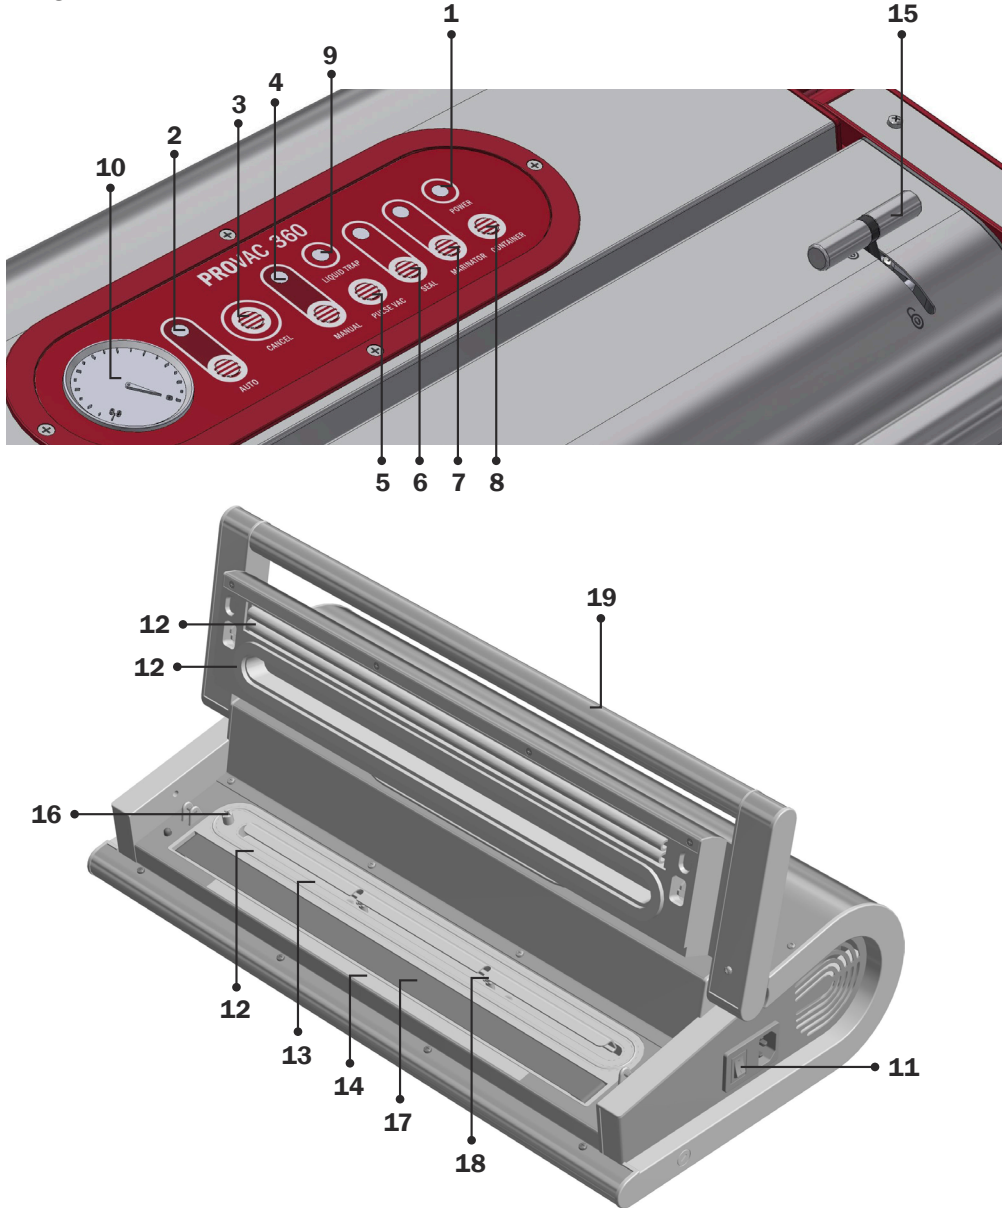

Figure 1: STATUS PROVAC 360 – components are marked with numbers.
- d.) Never touch the Sealing Strip when using the machine (Item 17 in Figure 1) – it may be hot.
Figure 1 below shows components of the vacuum packing machine. Numbers in explanations of machine operation are used in the same manner as in the Figure throughout the user manual.
- a.) Clean the surface of the area where the Status Stiki tape will be attached with alcohol or acetone. See Item 14 in Figure 1.
Turn the machine on by pressing the button on the right side of the machine (Item 11 in Figure 1). Make sure that the control light marked Power is on (Item 1 in Figure 1).
- Press the Seal button (Item 6 in Figure 1). During the sealing process the Seal button blinks and remains lit towards the end of the process.
- Press the Auto button (Item 2 in Figure 1) to run the full cycle and achieve maximum negative pressure. Make sure the cover of the machine is lifted.
If you notice that the machine is drawing liquid IMMEDIATELY stop the vacuum packing process by pressing the Cancel button (Item 3 in Figure 1). If the vacuum packing process is not stopped in time and the liquid enters the vacuum channel, the machine will automatically stop the vacuum packing process. The control light Liquid Trap will turn on.